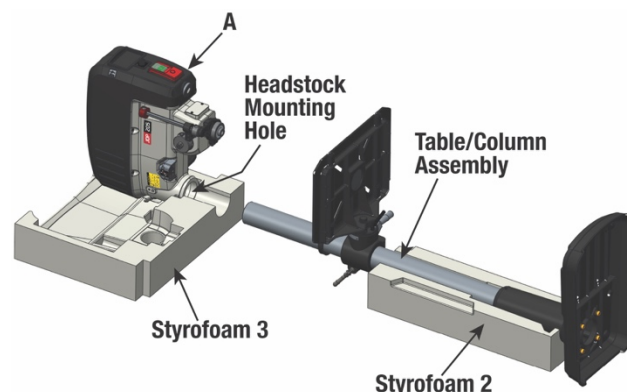

Figure 6-10
1. Lay the table/column assembly down on Styrofoam 2, as shown in Figure 6-10.
2. Place the headstock (A) in Styrofoam 3 with the control panel facing up, as shown in Figure 6-10.